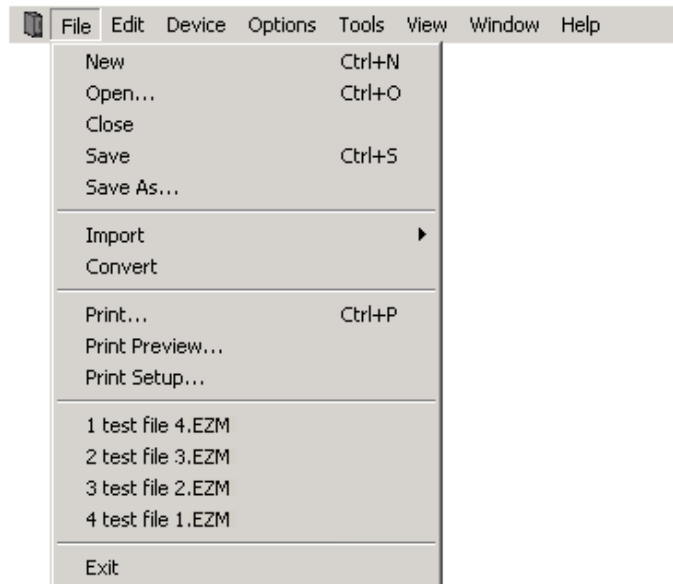

Figure 10: File Menu
- Press ALT and press the underlined letter in the menu name. Then press the underlined letter in the option name. For example, to open a new configuration file, press ALT and press F to open the File menu. Then press N for New, see Figure 10.
The File menu on the menu bar contains many different options for file handling (i.e., saving files, importing files, etc.). Figure 10 below shows the File menu expanded.